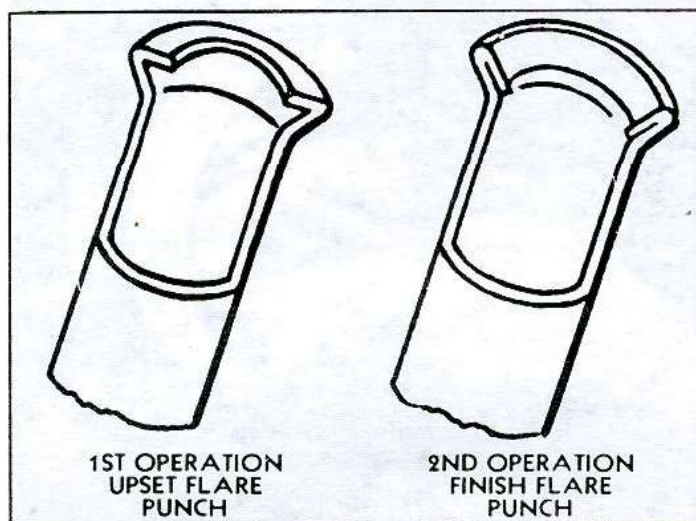

Fig. 12—Flaring Operation—First and Second Flare
7. To complete the flare, insert the pointed finish flare punch and the ram into the tool body. Tap the ram until a good seat is formed (fig. 12).